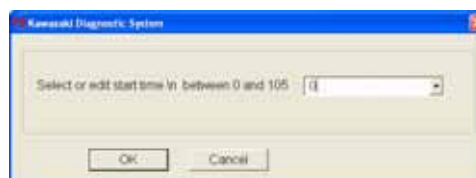

Fig. 6-29 Printing Graph
- o After selecting **Print**, Fig. 6-29 will appear.